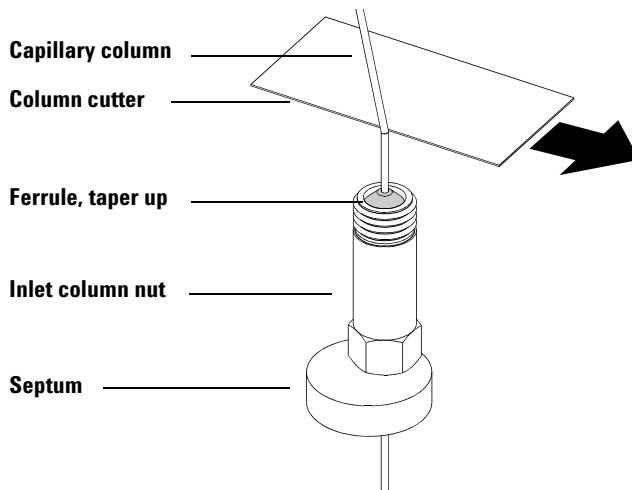

Figure 2 Preparing a capillary column for installation
- 2 Wearing clean gloves, slide a septum, column nut, and conditioned ferrule onto the free end of the column (Figure 2). The tapered end of the ferrule should point away from the column nut.